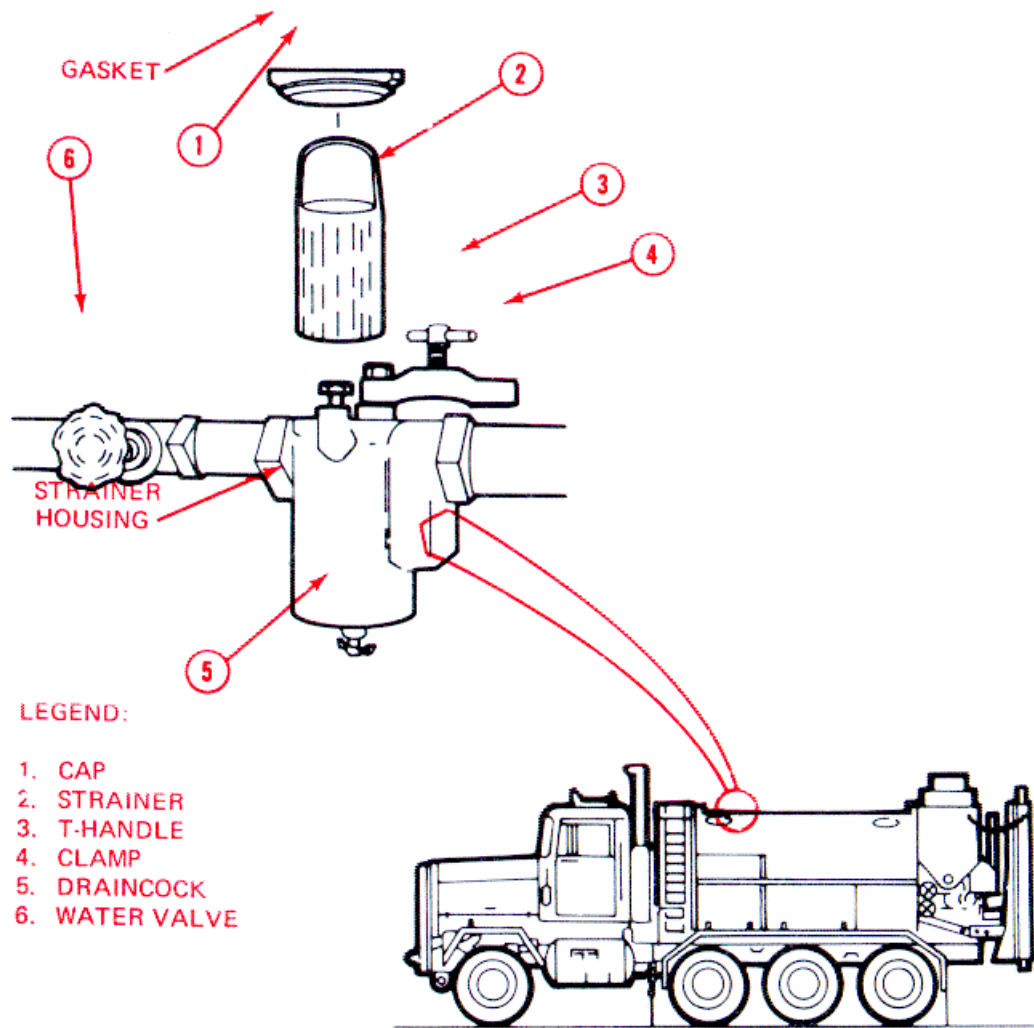

Figure 3-23. Water System Strainer Service
- (1) Close water valve (6, fig. 3-23).
- (2) Open draincock (5) and drain strainer into a suitable container.